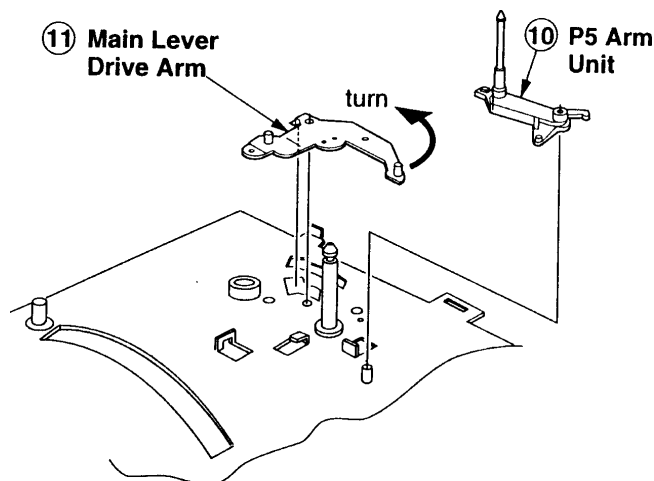

Fig. 10 - P5 Arm Unit/Main Lever Drive Arm Removal
P5 Arm Unit/Main Lever Drive Arm Removal (Figs. 10, 11)
2. Turn the main lever drive arm fully counterclockwise as shown in Fig. 10.